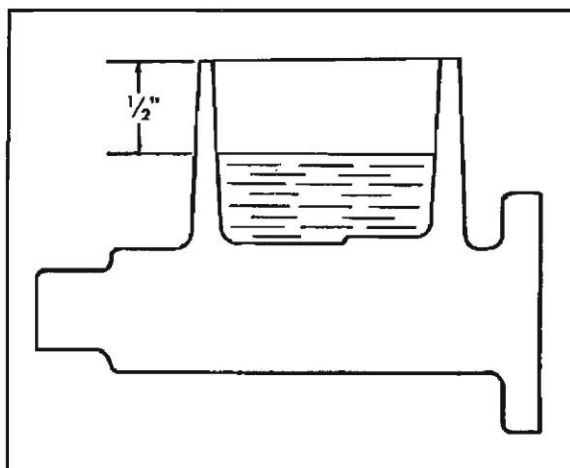

Fig. 5-11 Correct Fluid Level in Master Cylinder
6. Check level after working pedal several times. Fill master cylinder with recommended fluid to within 1/2" of top of cylinder and replace filler cap (Fig. 5-11).